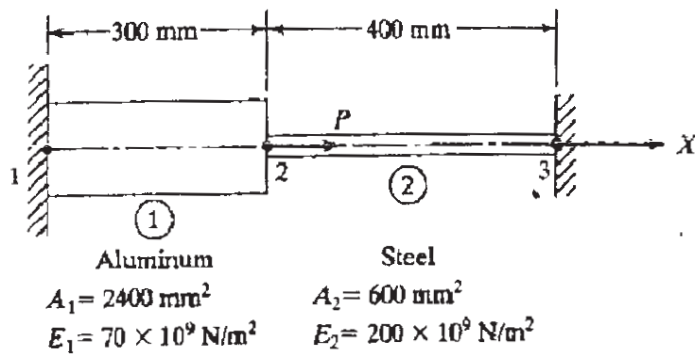

Fig. 3b
- b)** Consider the bar as shown in fig 3b. An axial load of $P = 300 \times 10^3$ N is applied as shown. Determine. [10]